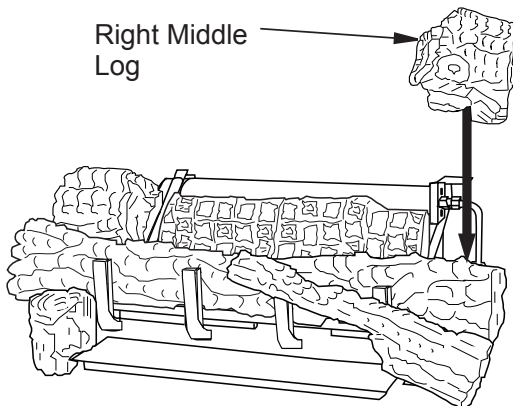

Figure 32 - Installing Right Middle Log
6. The right middle log has a groove on the bottom to sit on the chassis and has to sit on the tab on the back of the right front. The right middle log should have a recess area that fits around the ramp log as shown in **Figure 32**.